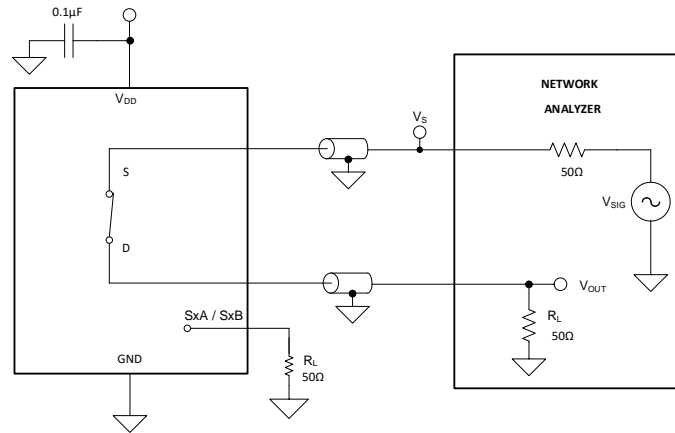

Figure 24. Bandwidth Measurement Setup
Bandwidth is defined as the range of frequencies that are attenuated by less than 3 dB when the input is applied to the source pin (Sx) of an on-channel, and the output is measured at the drain pin (D) of the device. Figure 24 shows the setup used to measure bandwidth.